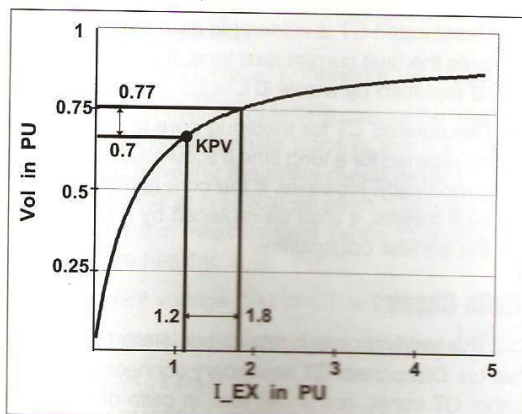

Fig 8 Saturation Curve
A typical satcurve is shown in Fig 8. Applied voltage is plotted on Y axis and resultant exciting current is plotted on X axis. KPV is defined as that point at which 10% increase in voltage results in 50% increase in exciting current. Below KPV, the relationship between voltage and current is linear. Above KPV this linearity is destroyed. Even for a small increase in voltage the resultant current is excessive. In a saturated CT most of the primary ampere turn (AT) is consumed in exciting the core with little output on secondary. This may lead to core damage.